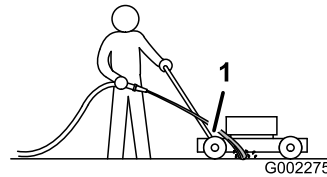

Figure 37
3. Hold the running garden hose at handle level and direct the water to flow on the ground just in front of the right rear tire (Figure 37).